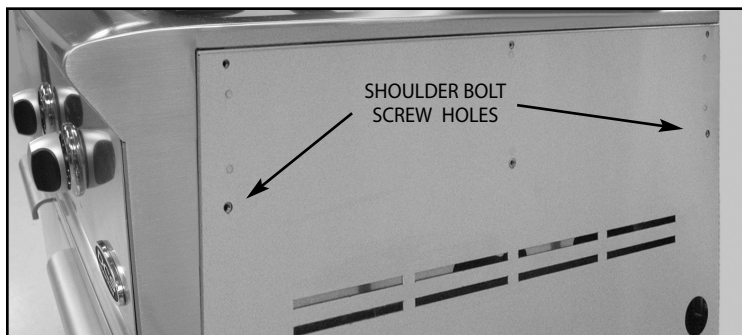

Fig. 01
1. Screw shoulder bolts (2) into the bottom screw holes on the side of the cart (Fig. 01 and 02). Tighten with 5/32 Allen wrench.